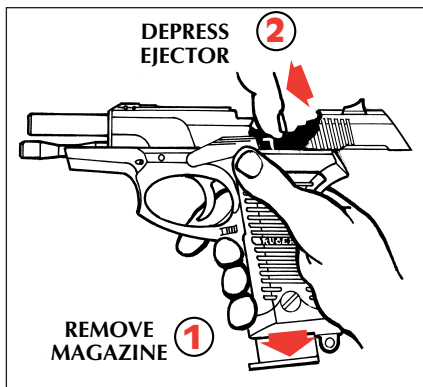

FIGURE 1
3. Keep upward pressure on slide stop to prevent forward movement of slide. Open slide is under strong spring tension and could injure fingers if allowed to slam shut. Insert finger through top of slide and push ejector downward and forward (see Figure 1, p. 17) until it locks in its lower position. This will permit forward movement of slide. Further disassembly is impossible unless this is done.